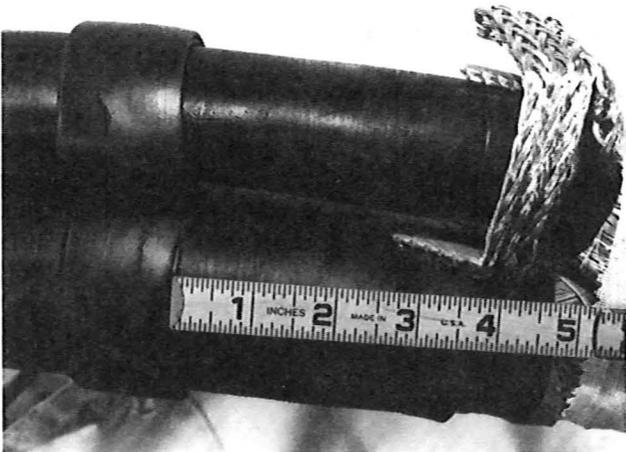

Fig. 2
2. Place two complete turns of B sealing tape around each cable so that the inner *edge* is about 4 inches from *sheath* end. (See Fig. 2.)